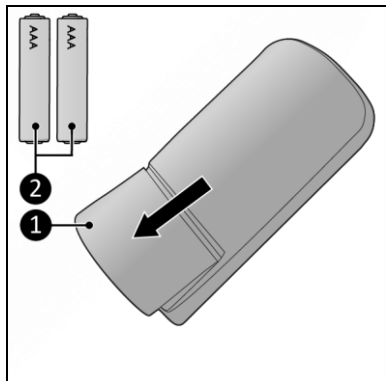

Figure 16
1. Remove the battery cover (Figure 16, pos. 1).
2. Insert two AAA 1.5 V batteries (Figure 16, pos. 2) in the battery compartment. Make sure to insert the batteries correctly.